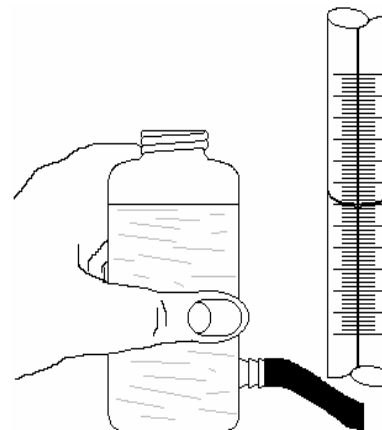

Figure 7 Measuring Sample Volume using Leveling Bottle
- c. Continuously repeat Step B until the amount of carbon dioxide absorbed from the sample (e.g., the level of the meniscus) does not change. Typically, three passes of the sample through the absorption pipette is sufficient for the complete absorption of CO₂. Close the stopcock on the burette and on the CO₂ pipette and record the position of the meniscus. To ensure the correct reading of the meniscus, hold the aspirator bottle as shown in Figure 7.